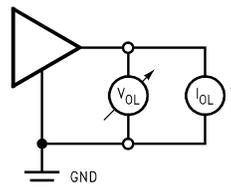

Figure 7.  $V_{OL}$  Test Circuit
**$V_{OL}$ —Low Level Output Voltage.** The output voltage at an output terminal with input conditions applied that, according to the product specification, will establish a logic low level at the output. This voltage is measured with respect to circuit common (ground). See Figure 7.